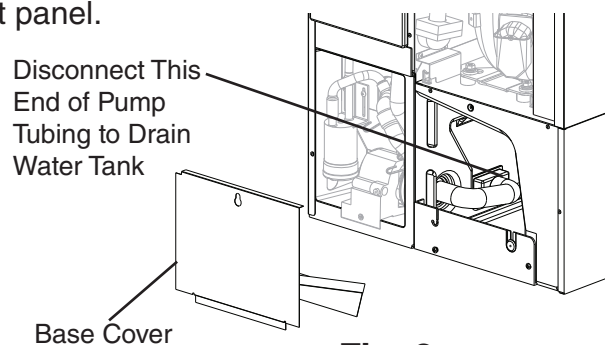

Fig. 6
- 3) Drain the water tank. remove the base cover, then disconnect one end of the pump tubing to drain the water tank. See Fig. 6. After the water tank has drained, reconnect the pump tubing.